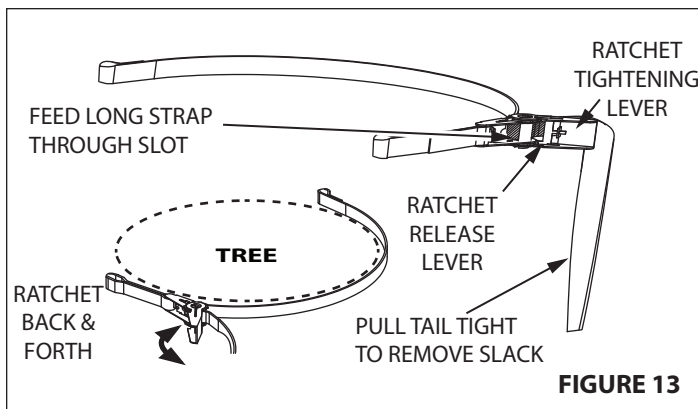

FIGURE 13
12. Standing on ladder step, lean toward tree with previously installed 6' ratchet strap (36) now in hand.
- Wrap the previously installed end of the long strap around the tree and feed through the slot in the ratchet mechanism. **SEE FIGURE 13**
- Pull tail of long strap until most of the slack is taken out. Be sure entire strap is even and at the same level all around tree. **SEE FIGURE 13**
- Use the ratchet to tighten the strap to tree. The tightened strap will stabilize the stand to tree and prevent movement. **SEE FIGURE 13**